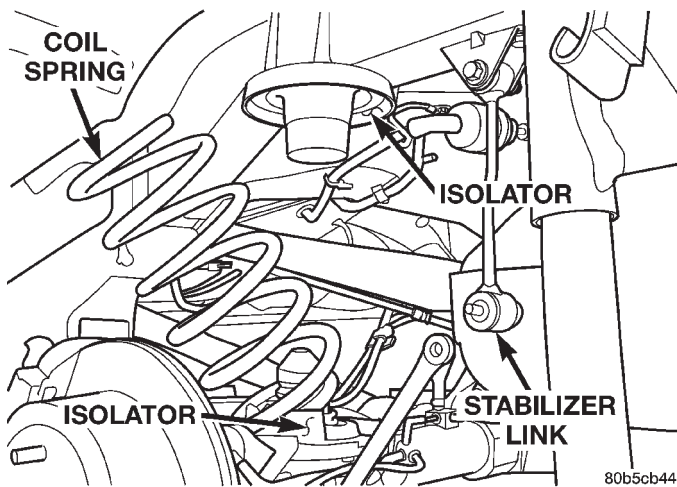

Fig. 3 Coil Spring
- (1) Raise and support the vehicle. Position a hydraulic jack under the axle to support the axle.
- (2) Remove the wheel and tire assemblies.
- (3) Remove the stabilizer bar link from the stabilizer bar (Fig. 3).
- (4) Remove the shock absorber lower bolt from the axle bracket.
- (5) Lower the hydraulic jack and tilt the axle and remove the coil spring (Fig. 3).
- (6) Remove and inspect the upper and lower spring isolators (Fig. 3).